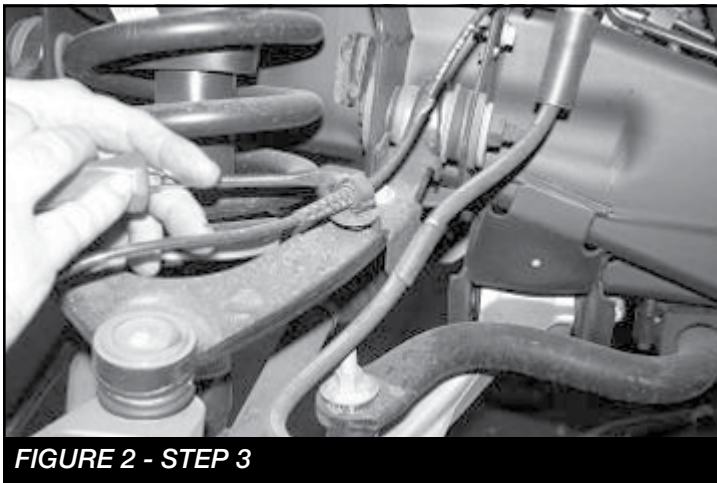

FIGURE 2 - STEP 3
3. Unplug the ABS brake connection from the frame and control arm. Remove the brake hose bracket from the steering knuckle. Remove the brake hose bracket from the coil bucket and save hardware. Remove the caliper from the rotor and secure the brake caliper to the frame out of the way. **DO NOT ALLOW THE BRAKE CALIPER TO HANG FROM THE BRAKE LINE HOSE. SEE FIGURE 2**